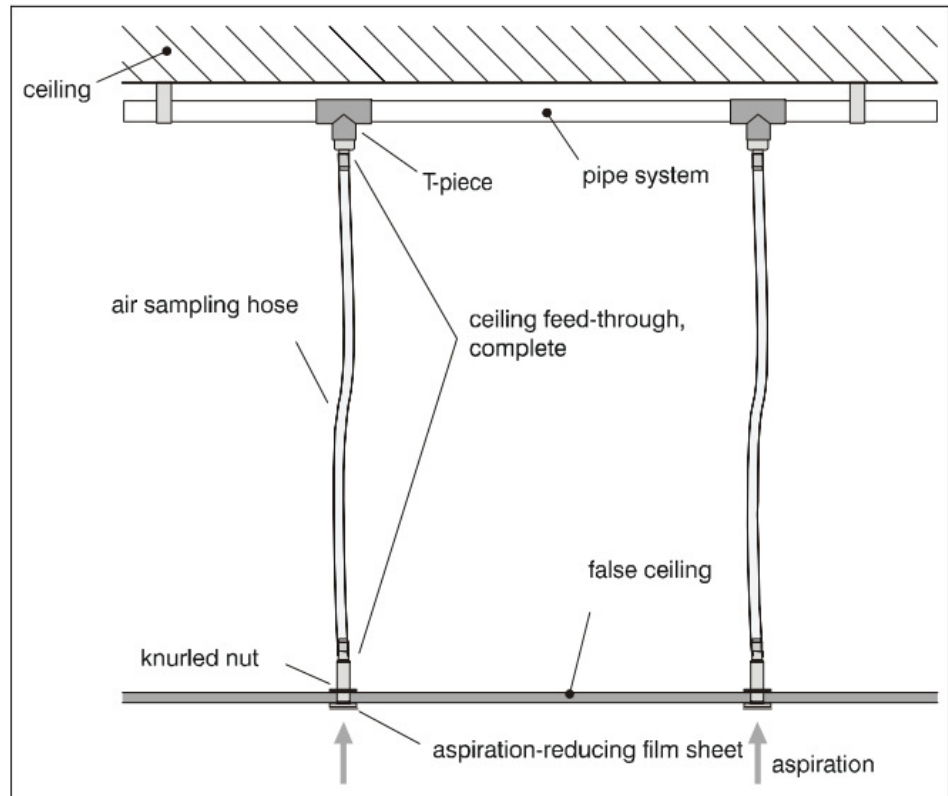

Fig. 2.14: Ceiling feed-through for ceiling voids
**Aesthetics** If a hidden installation is required for monitoring of the pipe system, it can be installed in the ceiling void. The ceiling feed through are put in the false ceiling. According to the pipe design guidelines the ceiling feed-through are equipped with aspiration-reducing film sheets with defined air sampling points (see chapter 4 "Pipe Design") and are connected to the pipe system with air sampling hoses (see fig. 2.14).